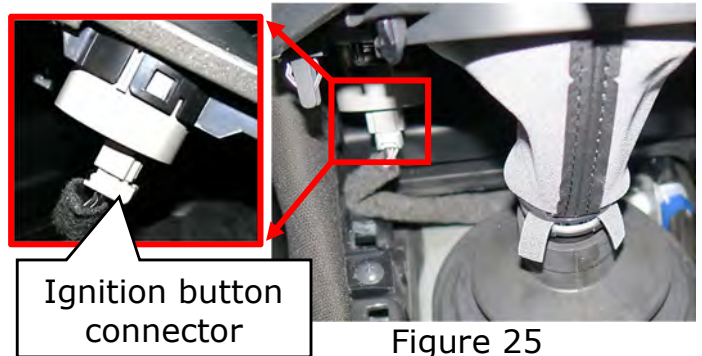

Figure 25
27. Lift the shifter finisher upward and disconnect the ignition button and the sport mode switch (if equipped). ( Figure 25)